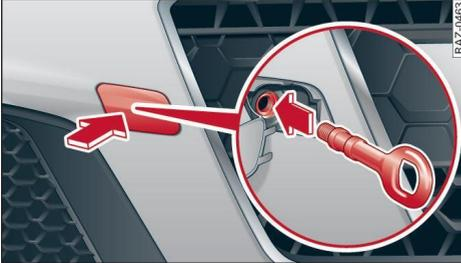

Fig. 161 Front bumper: Fitting the towline anchorage
- ▶ Firmly press the cap inwards briefly ⇒ *Fig. 161*. The cap will be released from the bumper.